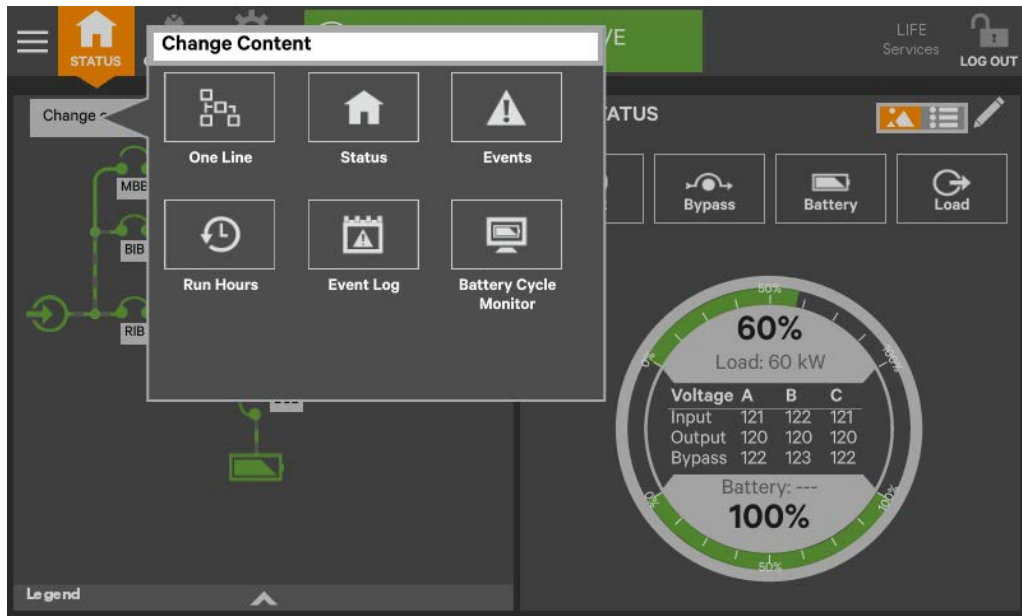

Figure 4-13 Change panel content or resize/remove a panel
2. Touch an icon to choose the data to be displayed in the panel (see Figure 4-13); choices are: